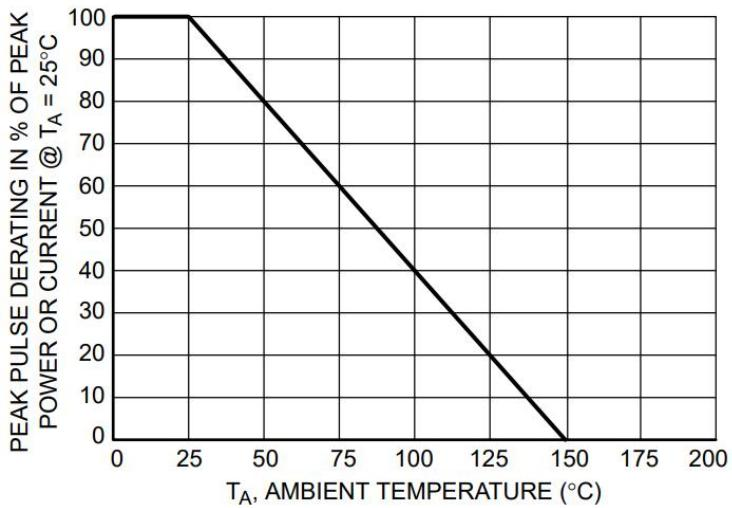
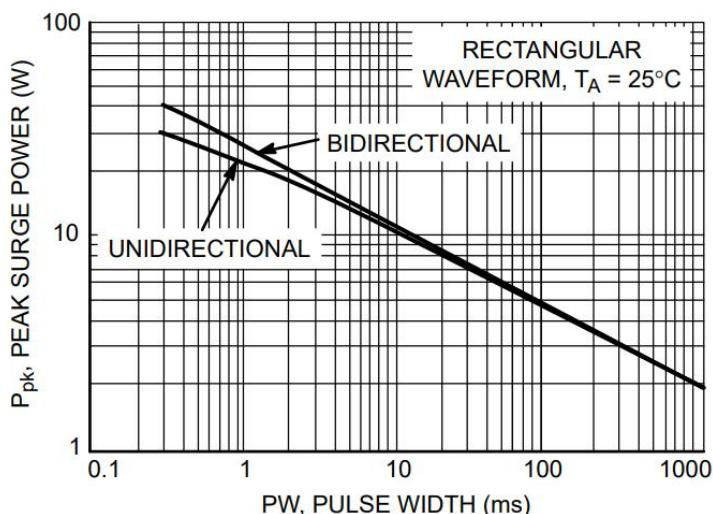

Figure 6. Pulse Derating Curve
Figure 7. Maximum Non-repetitive Surge Power, P_{pk} versus PW
1. Non-repetitive current pulse per Figure 6 and derate above $T_A = 25^\circ C$ per Figure 7.